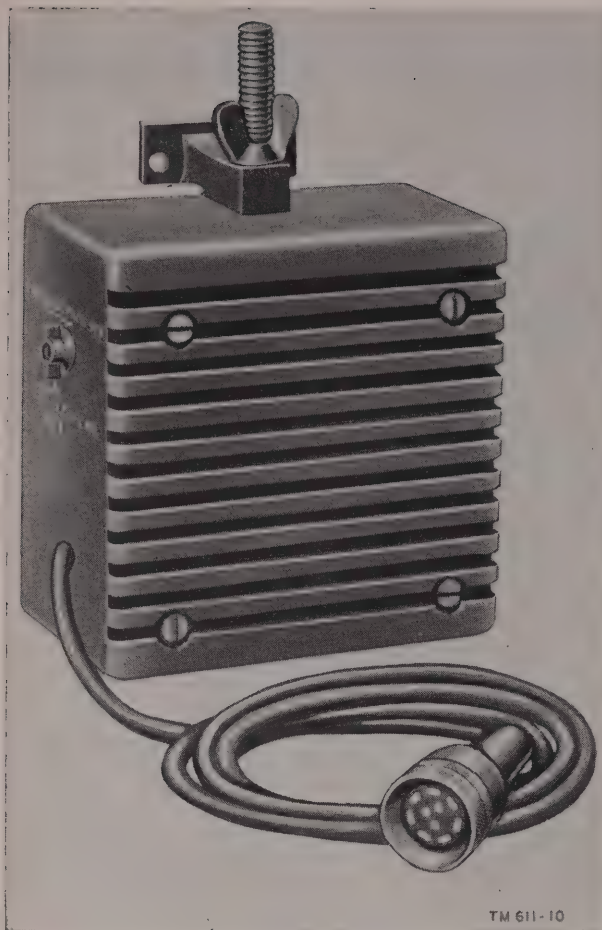

Figure 14. Dynamic Loudspeaker LS-166/U.
d. *Dynamic Loudspeaker LS-166/U*. Dynamic Loudspeaker LS-166/U (fig. 14) is a 4-inch permanent-magnet dynamic loudspeaker with